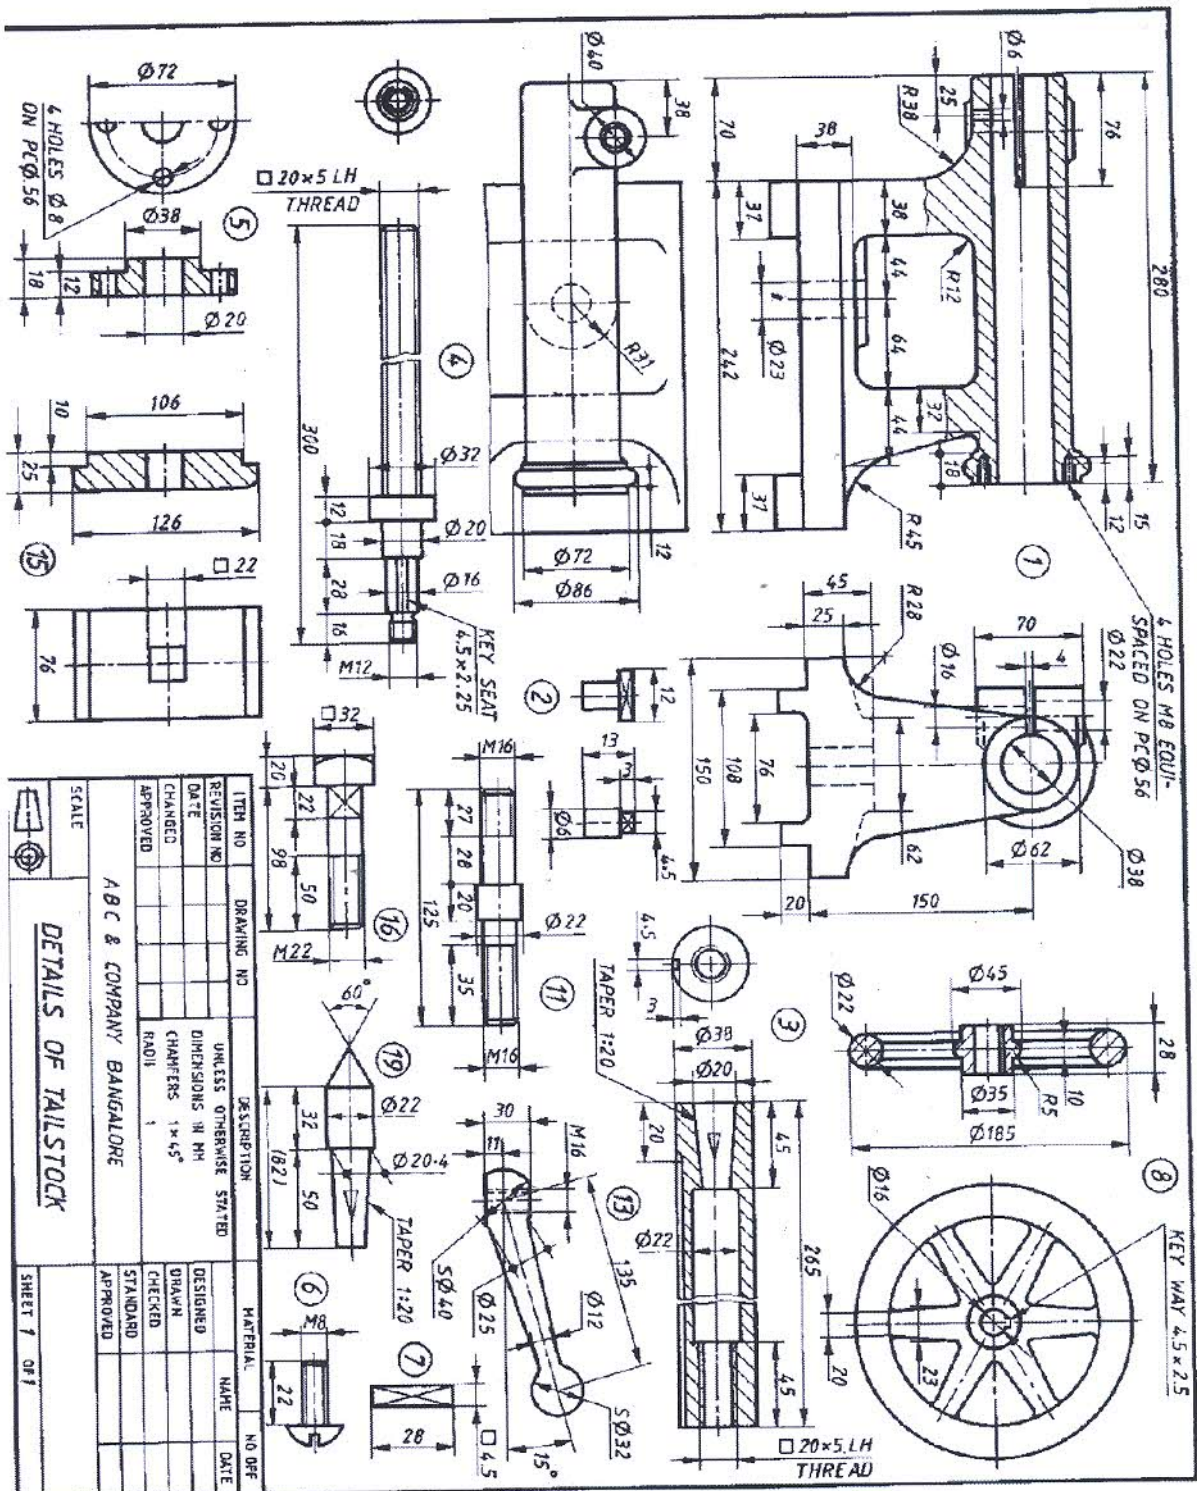

Figure 2 "TAIL - STOCK"
- Q.No.6** Figure 2 shows the details of a “TAIL – STOCK” of a lathe. Assemble the parts and draw. (a) Sectional front view (b)Top view. **(50 Marks)**